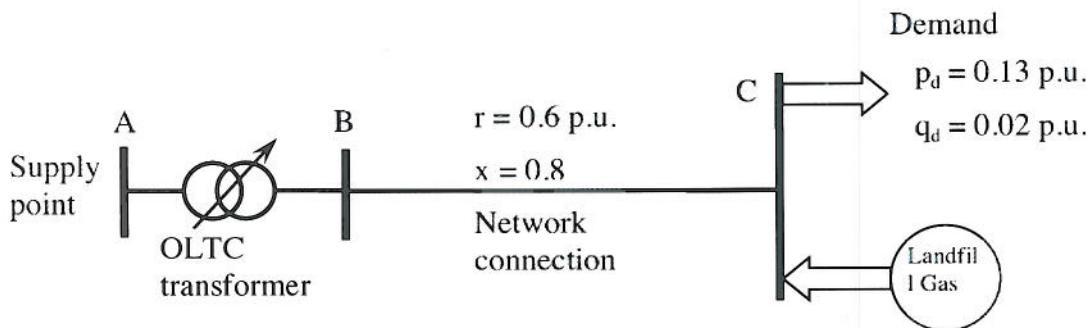

Figure 5, A landfill gas generator on a weak distribution feeder.
- c) A landfill gas plant is to be connected to a weak distribution feeder shown in Figure 5. The demand varies between the maximum indicated in Figure 5 and a minimum that is 10% of the maximum.
- i) Estimate the amount of landfill gas generation that could connect to the network if the allowable voltage variation in the network is +/- 5%. The On Load Tap Changing (OLTC) transformer is set to maintain the voltage at busbar B in figure 5 at 1.02 p.u..